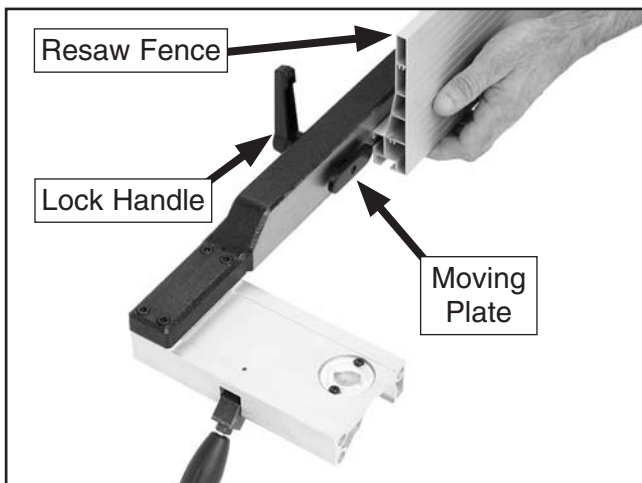

Figure 38. Attaching resaw fence to standard fence.
6. Slide the resaw fence over the moving plate, as shown in **Figure 38**, so the moving plate fits inside the channel of the resaw fence.